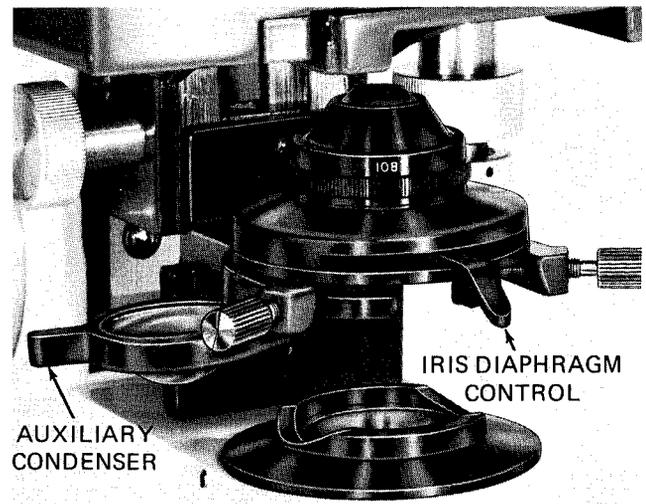

Figure 18. Substage Equipment
Each condenser mount is furnished with an iris diaphragm which controls the effective numerical aperture of the objective, Figure 18.
- (b) Auxiliary Swing-in Condenser Catalog No. 1091. This condenser (Figure 18) permits